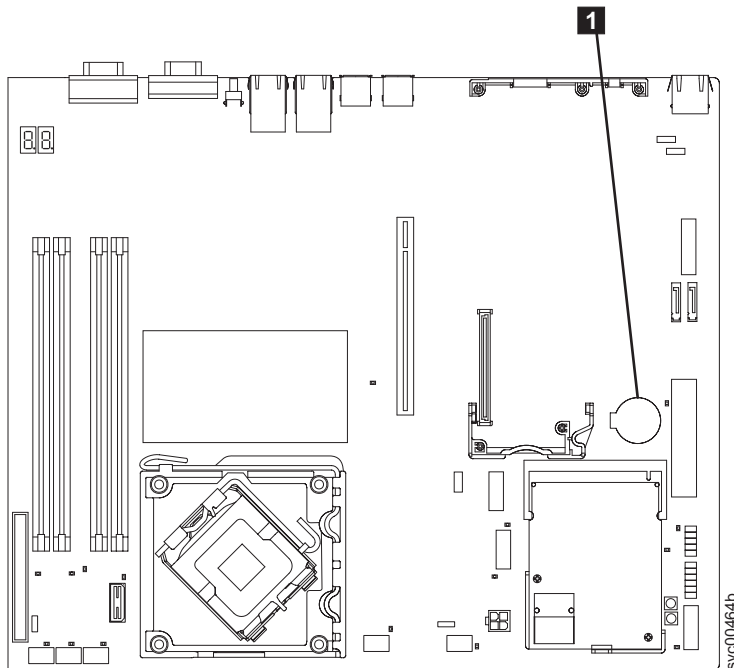

Figure 144. Locating the SAN Volume Controller 2145-8A4 CMOS battery
**1** in Figure 144 on page 137 shows the location of the battery.